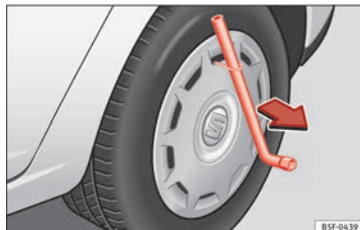

Fig. 81 Remove the wheel cover.
- Remove the wheel cover using the wire hook » Fig. 81.